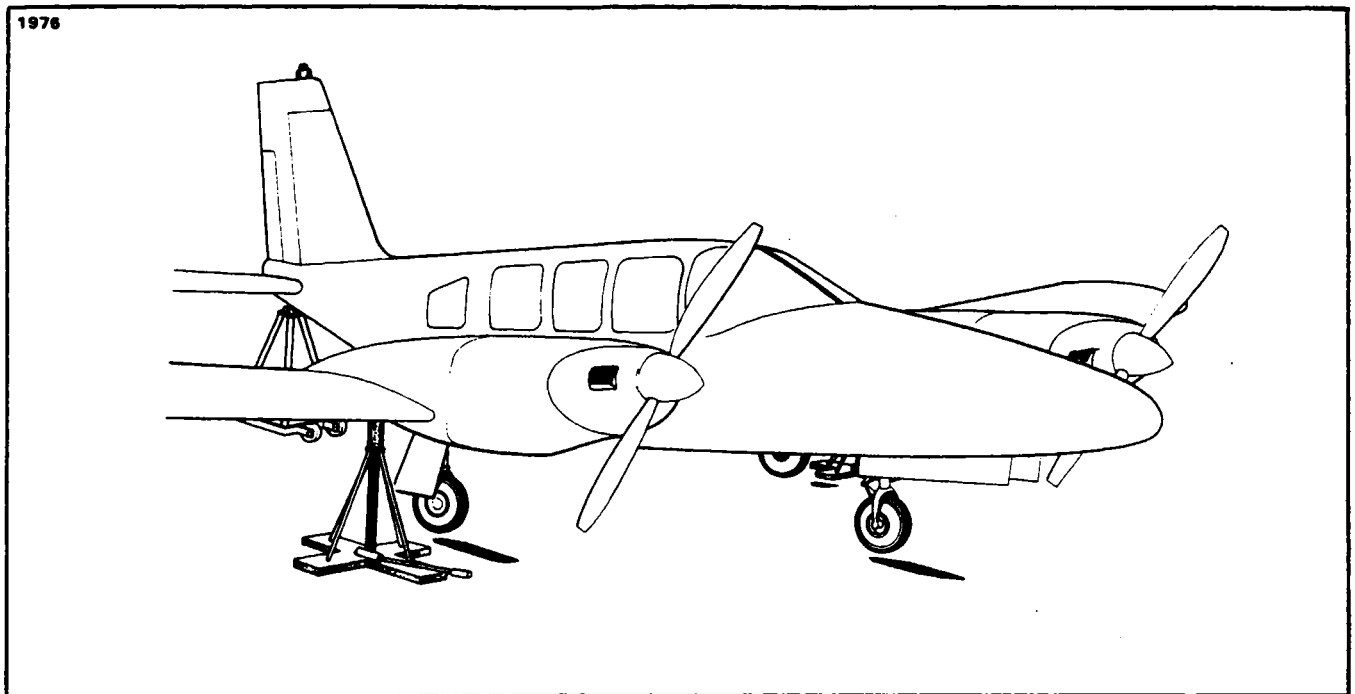

Figure 2-4. Jacking
- b. Attach a tail support to the tail skid. Place approximately 600 pounds of ballast on the support to hold the tail down. (Refer to Figure 2-4.)